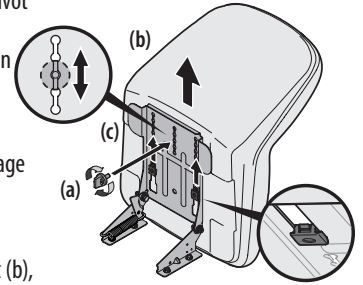

Figure 4
4. Slide the seat (b) rearward in the seat pivot bracket (c), lining up one of the slots in the seat pivot bracket (c) with the hole in the center rear of the seat (b) base. See Figure 4.
**NOTE:** Be certain the two seat tabs engage the seat pivot bracket as shown in the bottom right inset of Figure 4.